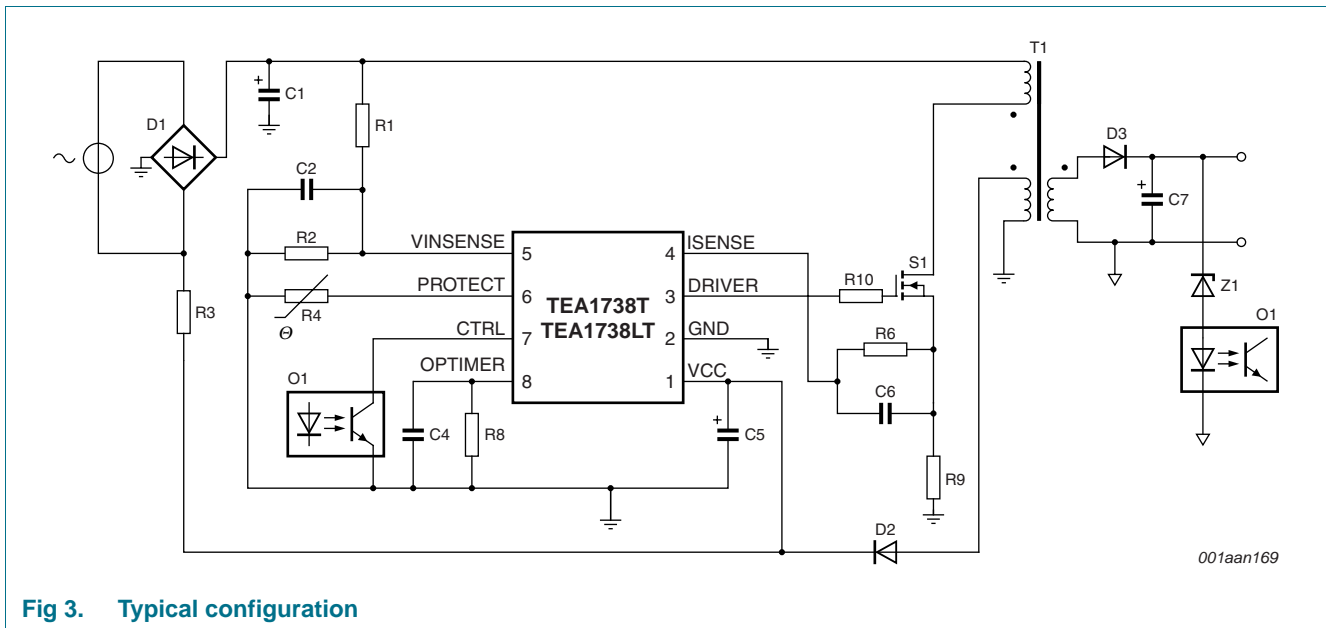
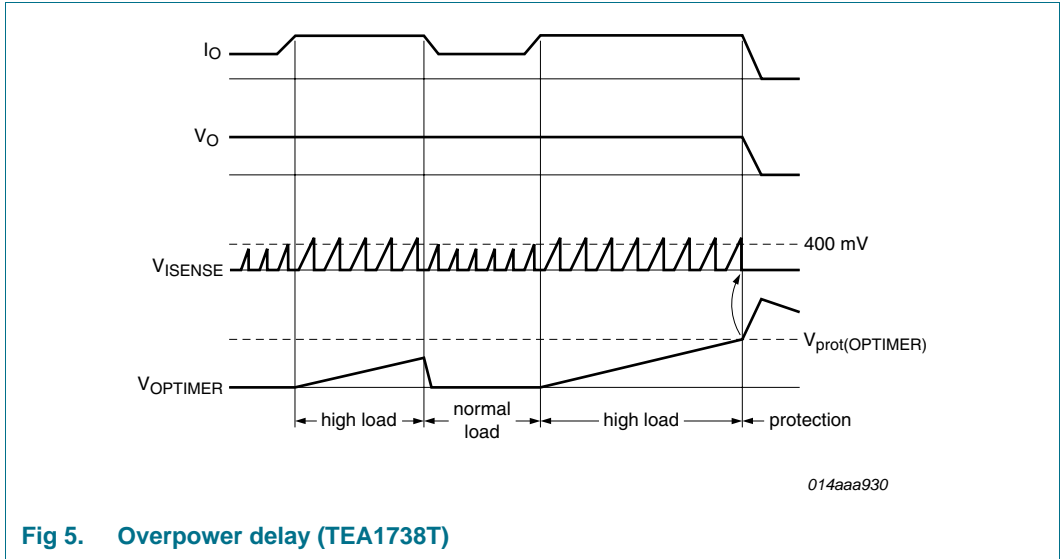
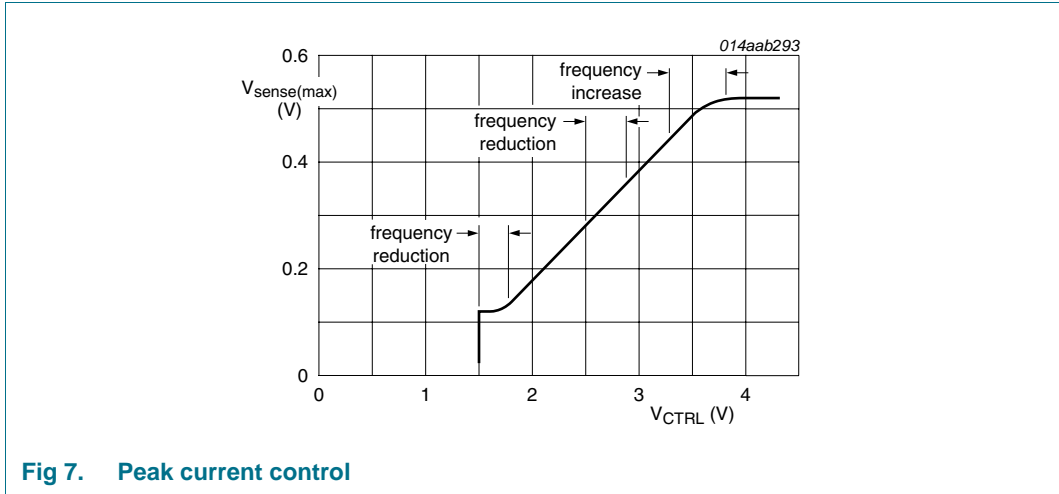
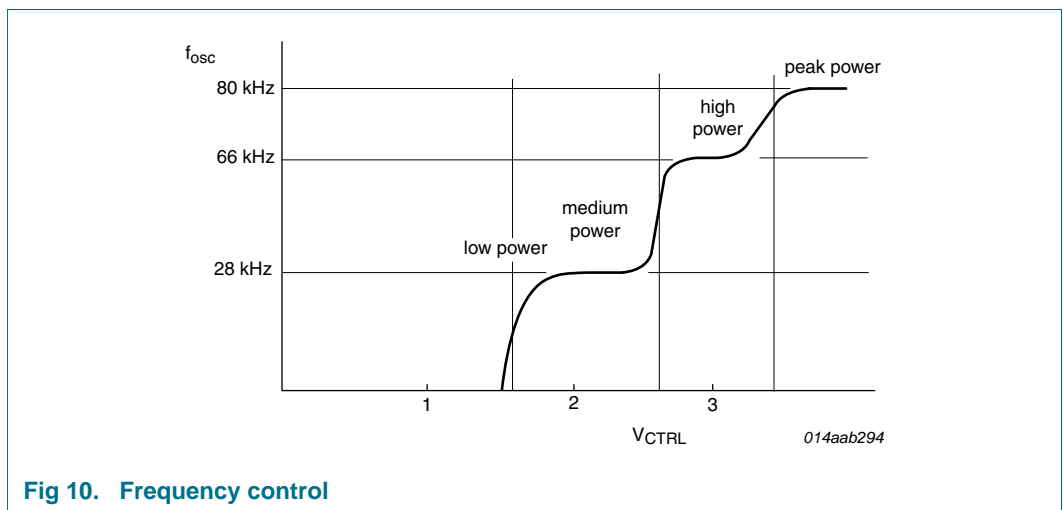

Fig 3. Typical configuration
Fig 5. Overpower delay (TEA1738T)
Fig 7. Peak current control
Fig 10. Frequency control
The TEA1738(L) contains a flyback circuit controller, a typical configuration of which is shown in Figure 3.
If the OPTIMER pin is connected to capacitor C4 (see Figure 3), a temporary overload situation is allowed.  $V_{\text{ctrl}(I_{\text{peak}})}$  (see Figure 1) is set by pin CTRL. When  $V_{\text{ctrl}(I_{\text{peak}})}$  is above 400 mV, the  $I_{\text{IO}(\text{OPTIMER})}$  current (11  $\mu\text{A}$  typical) is sourced from the OPTIMER pin. If the voltage on the OPTIMER pin reaches the  $V_{\text{prot}(\text{OPTIMER})}$  voltage (2.5 V typical) the OverPower Protection (OPP) is triggered (see Figure 5).
The primary current is sensed by the ISENSE pin across external resistor R9 (see Figure 3) and compared with an internal control voltage. The internal control voltage is proportional to the CTRL pin voltage (see Figure 7).
A soft start is performed to prevent audible noise during start-up or a restart condition. Before the converter (re)starts, soft start capacitor C6 (see Figure 3) on the ISENSE pin is charged. When the converter (re)starts switching, the primary peak current slowly increases as the soft start capacitor discharges through the soft start resistor (R6, see Figure 3).
The switching frequency is increased for peak power operation. In medium power operation the switching losses are reduced by lowering the switching frequency. A second frequency reduction step is made when the output power is reduced to low power. In low power operation the converter switching frequency is reduced while the peak current is set to 25 % of the maximum peak current (see Figure 7 and Figure 10).